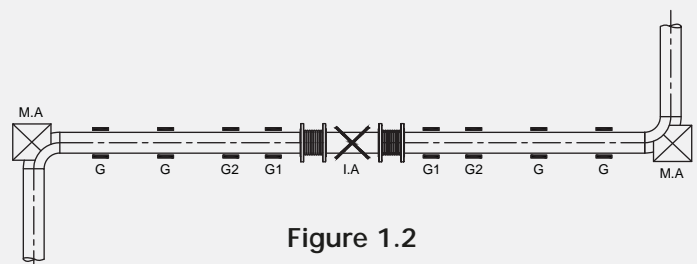

Figure 1.2
Figure 1.2 typifies good practise in the use of a double Expansion Joint to absorb axial pipe line expansion. Note the addition of the intermediate anchor (I.A) which, in conjunction with the two main anchors, divides the pipe line into individual expanding sections, so that there is only one Expansion Joint between any two anchors. Note also the closeness of the first alignment guide and the second alignment guide (G1) to each Expansion Joint, the spacing between the first alignment guide and the second alignment guide (G2) and the spacing of intermediate guides (G) along the balance of each pipe section.